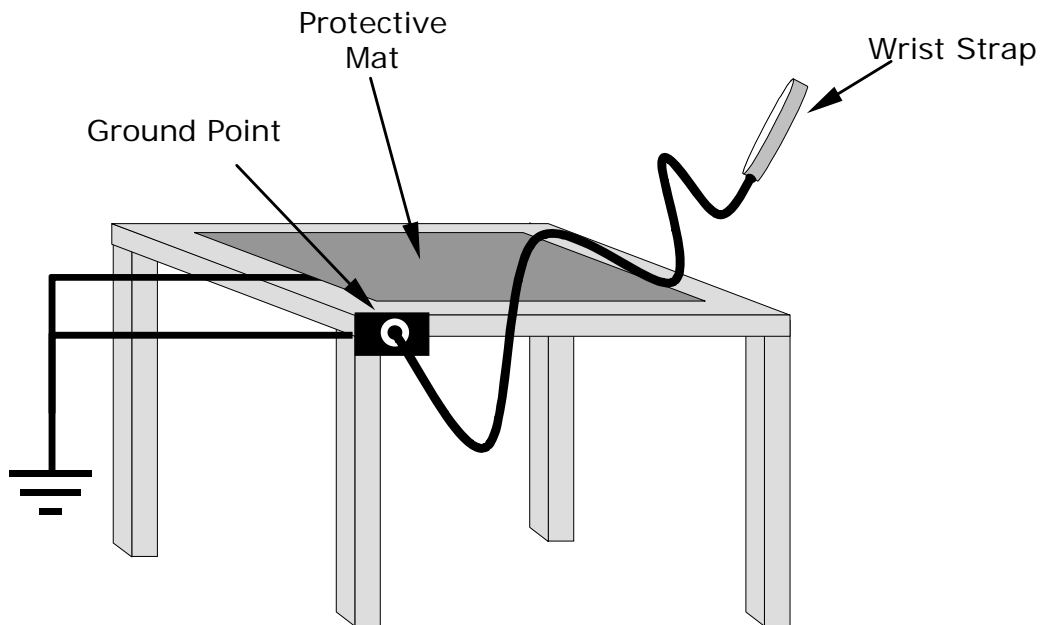

Figure 12-2: Basic anti-ESD Work Station
**Only handle or work on all electronic assemblies at a properly set up ESD station.** Setting up an ESD safe workstation need not be complicated. A protective mat properly tied to ground and a wrist strap are all that is needed to create a basic anti-ESD workstation (see Figure 12-2).